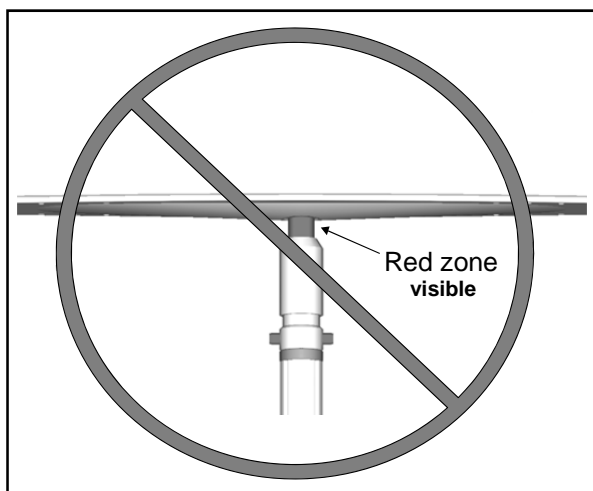
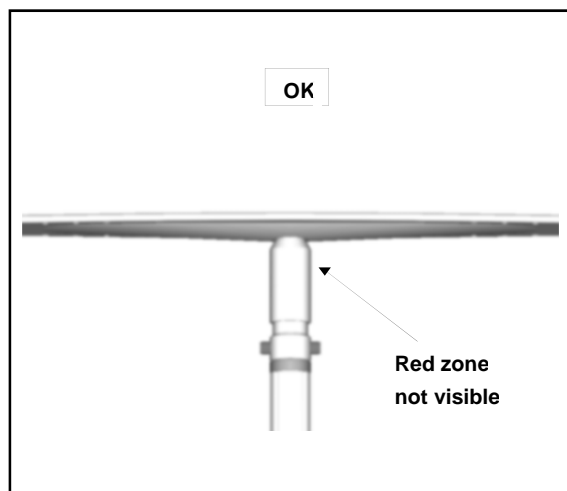

Figure 24
Figure 25
12. Once the bubble is in the centre of the clip-on level – continue to tighten **ONLY** until the red zone at the top of the post is no longer visible (see Figure 24 and Figure 25).